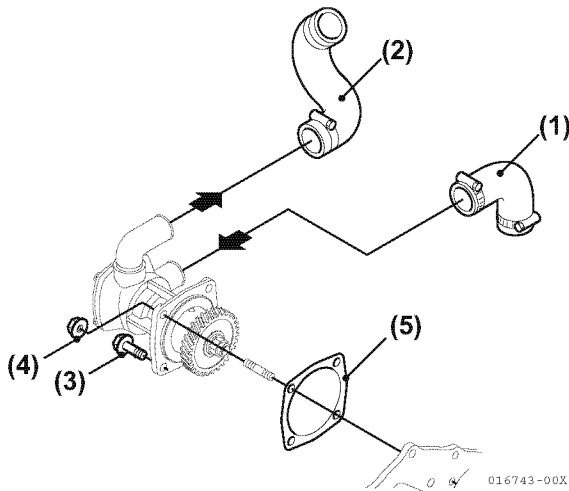

Figure 7-36
- 17. Install the seawater pump assembly with new gasket (**Figure 7-36, (5)**) to gear case.
- 2. Disconnect seawater supply hose from seawater pump (**Figure 7-36, (1)**).
- 3. Disconnect seawater pump-to-heat exchanger pipe (**Figure 7-36, (2)**).
- 4. Remove three bolts (**Figure 7-36, (3)**) and one nut (**Figure 7-36, (4)**) then remove seawater pump.
Note: When installing, use the new gasket (**Figure 7-36, (5)**).